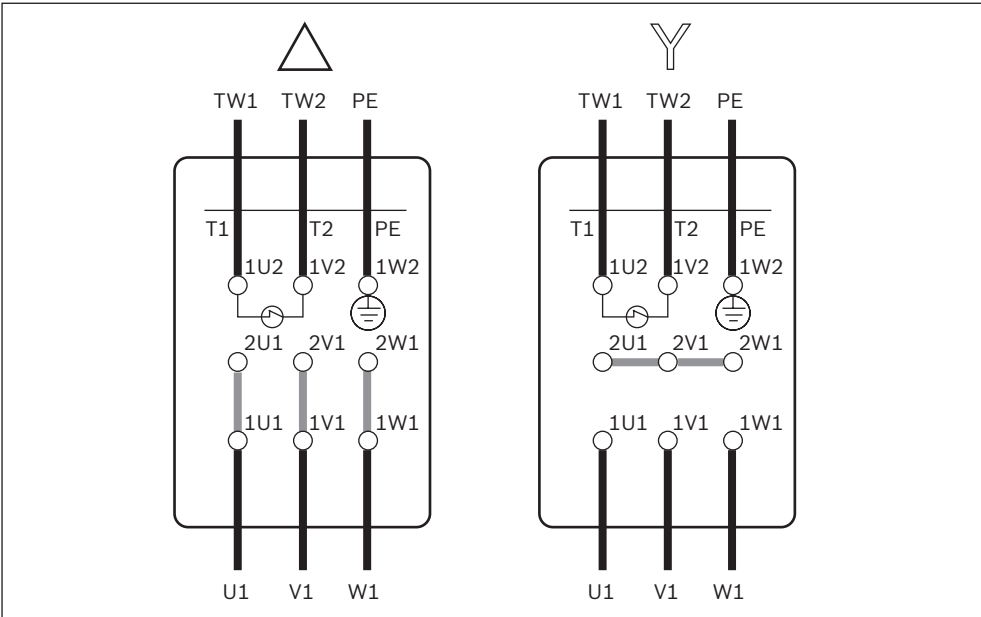

Fig. 44: Delta/wye connection diagrams
- Connect the motor in either a wye or a delta configuration in accordance with the wiring diagrams, see Fig. 44 on page 57, and the wiring diagram in the terminal box.
- Switch any two wires (U1, V1 or W1, see Fig. 44 on page 57) to change the motor's rotational direction.